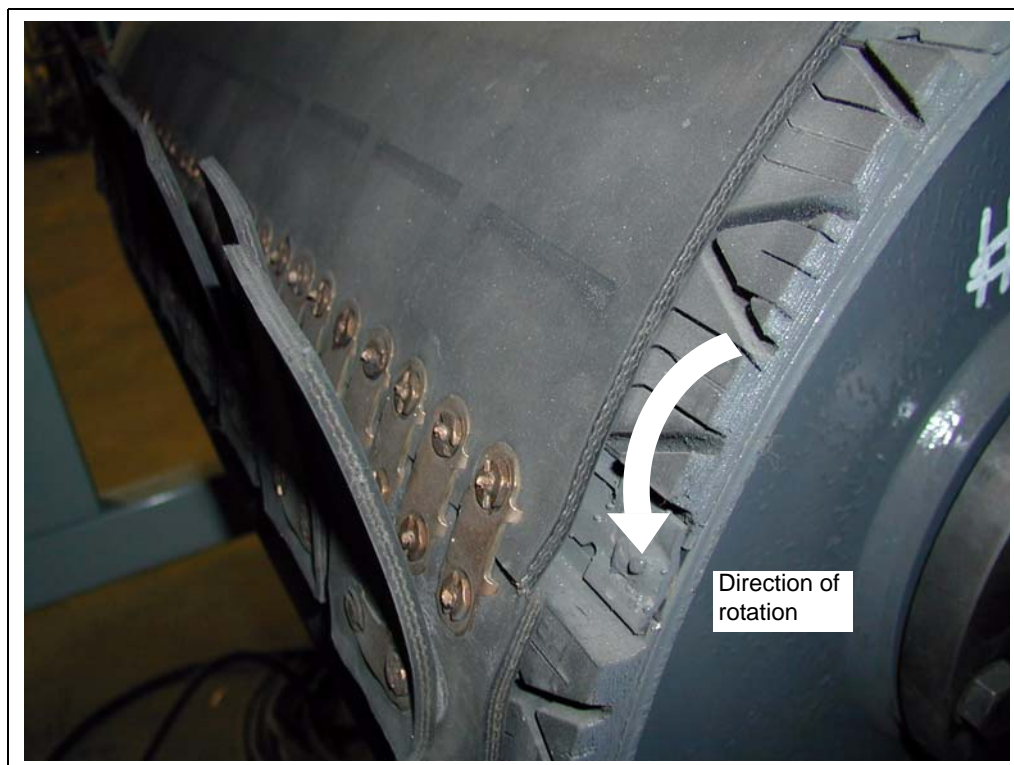

Figure 6S
13. Place flippers on belt. The flipper should be located so the tail of the flipper covers the splice. **Note direction of belt travel.** The flippers are evenly spaced across the belt with a 1/4" gap between them. There will be a larger gap between the outside flipper and the edge of the belt. (See Figure 6S.)